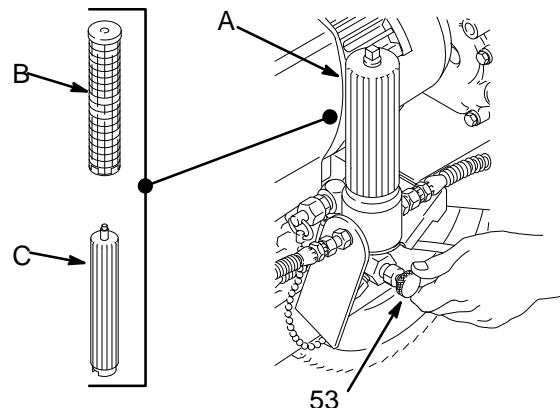

Fig. 4
- Remove the spray tip from the gun. Remove the filter bowl (A) and screen (B); see manual 307–273. Clean the screen separately and install the bowl without the screen to flush it. See Fig. 4.